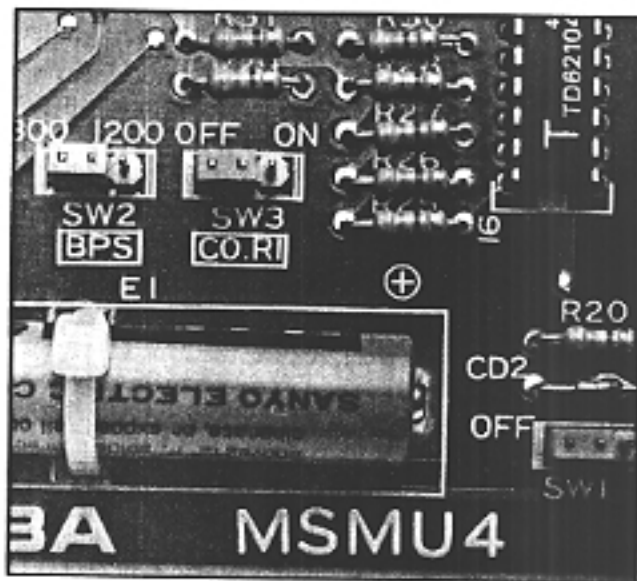

FIGURE 15
06.52 Locate the SW1 battery strap on the MSMU (Figure 15) and connect the memory back-up battery. The strap is shown in the OFF position. To connect the battery, remove and reinstall the strapping plug so that it bridges the center pin with the pin labeled ON.
06.53 Select the data output speed using the SW2 strap (Figure 15). The speed may be set at 300- or 1200-BPS by installing the strapping plug so that it bridges the center pin with the terminal labeled "300" or "1200". The SW2 strap is shown in the 300-BPS position.
06.54 The SMDR feature will printout call records of both incoming and outgoing calls or *only* outgoing calls. This option is selected using the SW3 strap (Figure 15). Installing the strapping plug so that it bridges the center pin with the terminal labeled OFF will cause both incoming and outgoing calls to be recorded. The SW3 strap is shown in the ON position, which selects outgoing calls only.